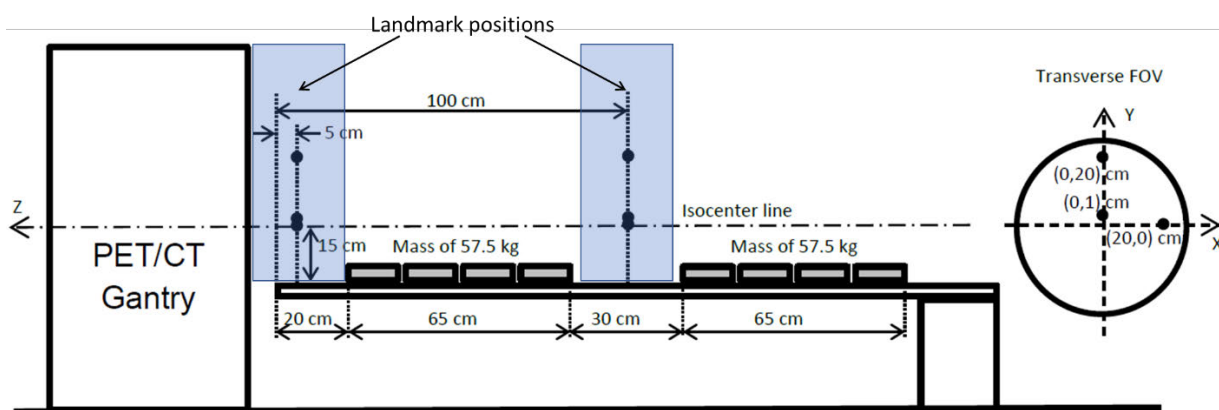

Figure 7.2: Phantom position in the scanner – blue boxes represent 2 different landmark positions. Make sure that the weights are not inside scan FOV.
1. Refer to Figure 7.2. Distribute the mass, such as weight plates or sandbags, totaling 57.5 kg evenly over 65 cm, from 20 cm from the tip of the table. If you use sandbags be careful not to get the sand in the tables sliding rails.
2. The remaining mass should be evenly distributed over 65 cm, between 115 cm and 180 cm from the tip of the table. Refer to Figure 7.2.